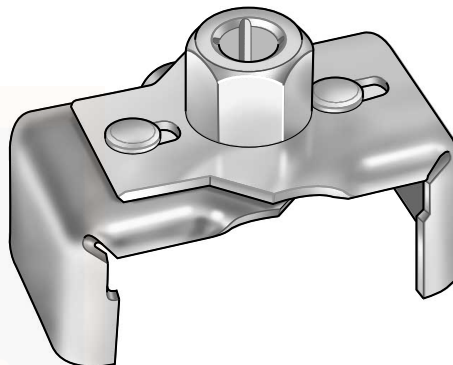

Figure 24. Oil Filter Wrench (Part No. HD-42311)
4. See Figure 24. Remove the oil filter using the OIL FILTER WRENCH. Clean the oil filter mount flange of any old gasket material.